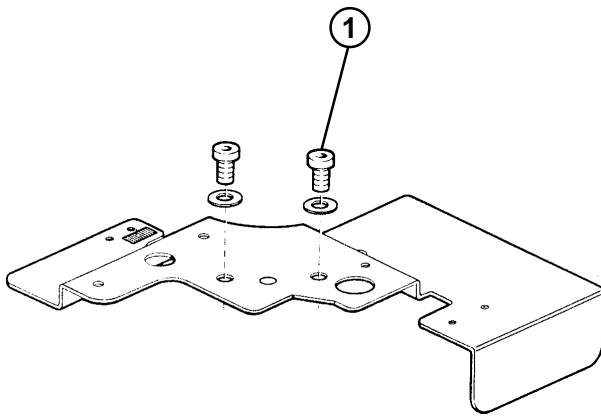
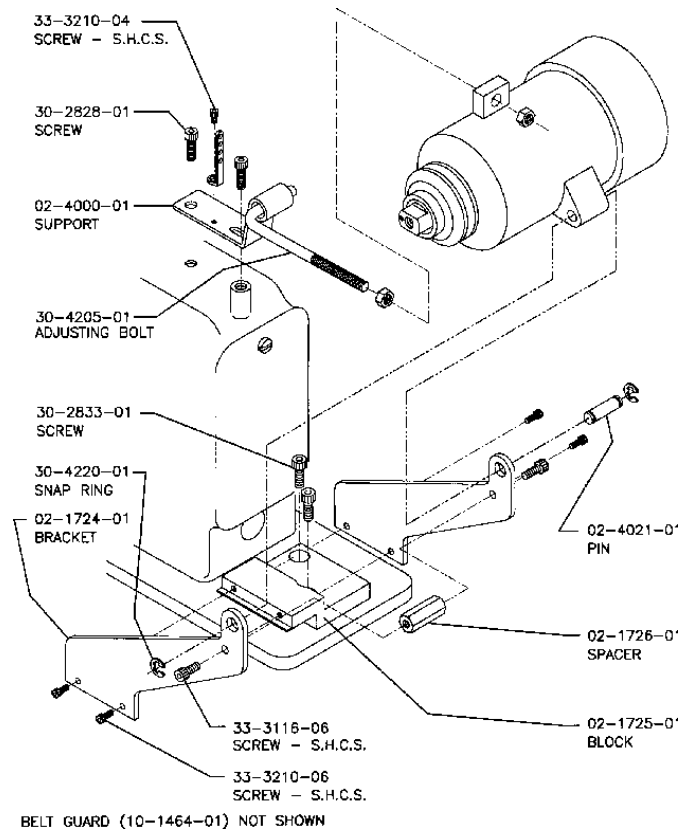

FIG. 2-13
FIG. 2-14
F. To install the Upper Motor. Remove the two cover retaining screws (Fig. 2-13, Item 1), and using the screws provided install the upper motor (See Fig. 2-14).